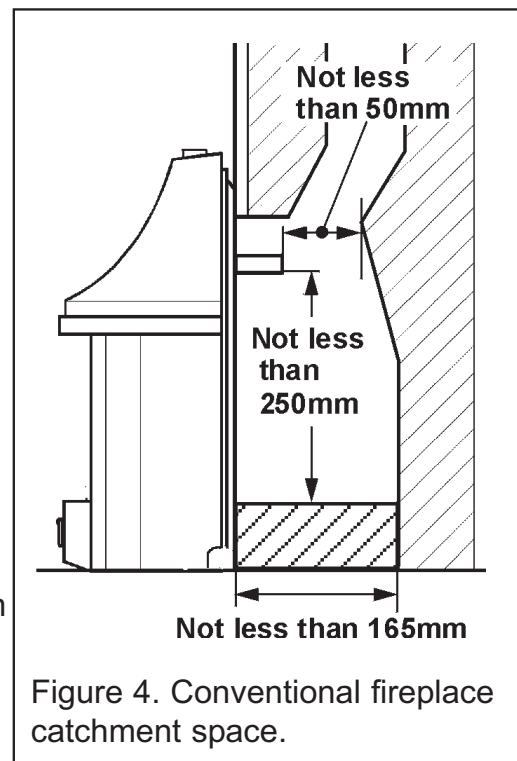

Figure 4. Conventional fireplace catchment space.
On conventional flues the catchment space below the flue spigot must extend at least 250mm downwards measured from the bottom of the flue spigot (See figure 4).
Any opening visible below the appliance may be closed in but the depth of the catchment space within the wall opening must be as shown in figure 4.
9. If the fire is fitted to a recessed fireplace, an extension flue spigot up to a maximum total length of 125mm may be used. The extension must be a tight fit over the flue spigot and be secured by two self tapping screws. Note the minimum clearance required as shown in figure 4.